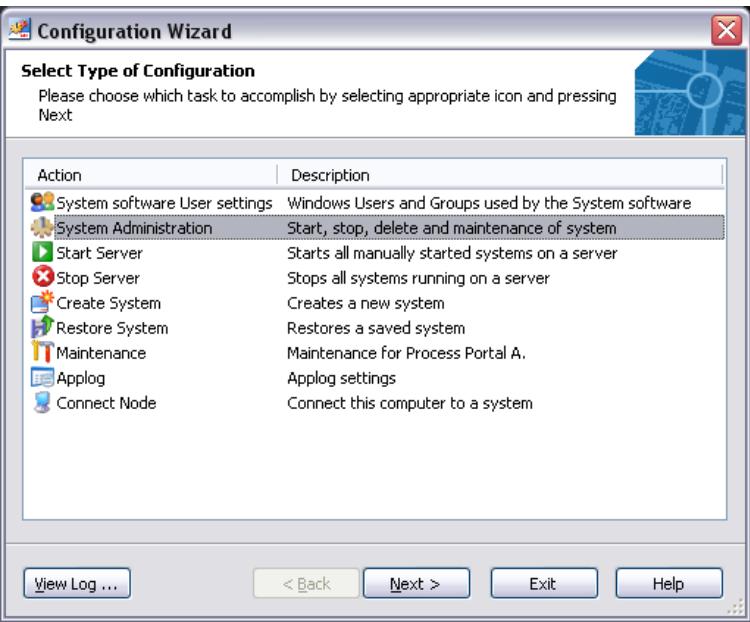

Figure 9. Create Remote Access Server
- 1. Select the **System Administration** option, click **Next**, see Figure 9.